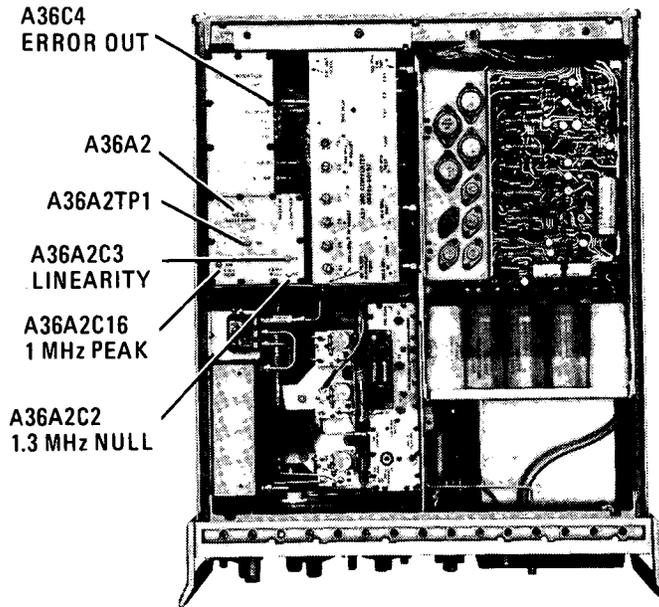

Figure 5-44. Tuning Stabilizer VCXO Adjustment Locations
21. Remove A36A2 cover plate (Figure 5-44) for access to test points and center A36A2C3 LINEARITY.